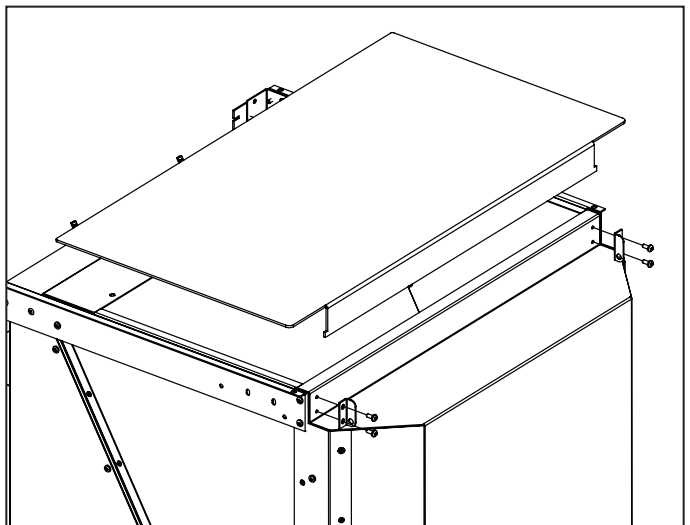

Figure 6: Lid and hinges removal.
6. Remove four screws that are mounting the lid hinges. This will allow you to remove hinges and lid, see figure 6.